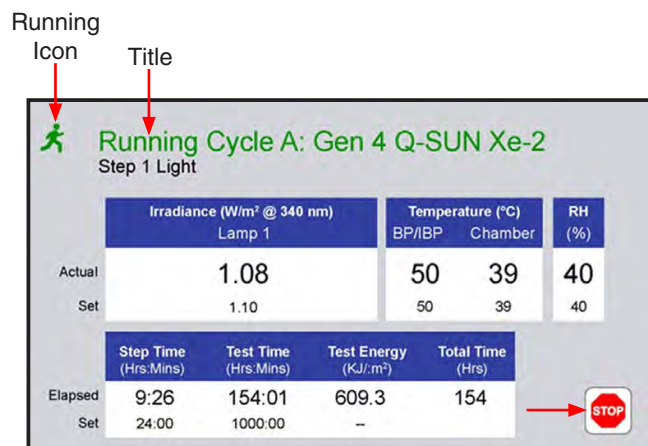
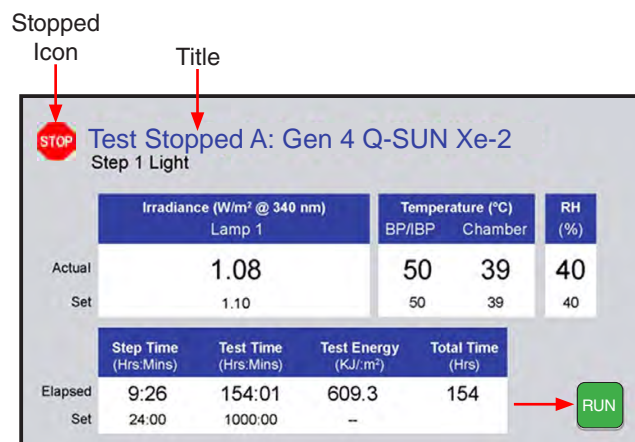

Figure 11.2c: Status icon and title when test running.
Figure 11.2d: Status icon and title when test stopped.
- A colored icon and title at the top of the screen indicate the overall status of the test (Figure 11.2c, Figure 11.2d).